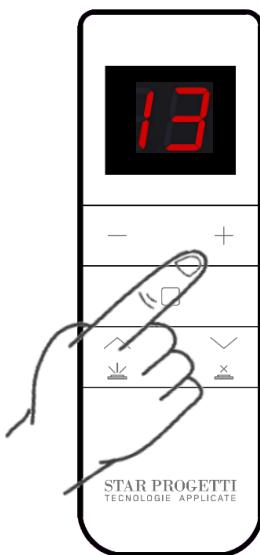

Fig.3
- use the "+" and "-" buttons to select channel 13 Fig. 3 and then press the button as shown in Fig. 4